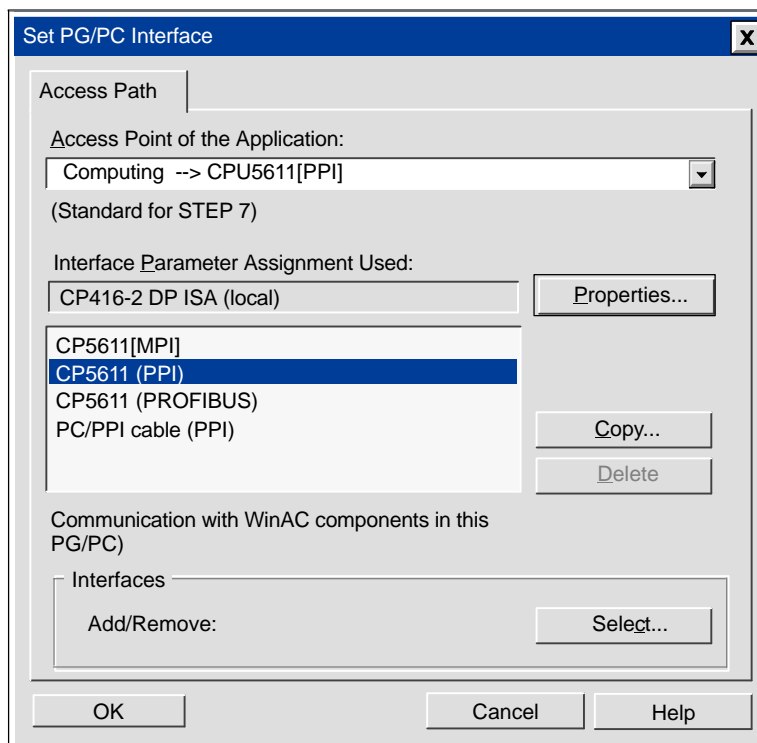

Figure 3-1 Setting the PG/PC Interface
3. Click the Setting PG/PC Interface button to access the Set PG/PC Interface dialog box (Figure 3-1).